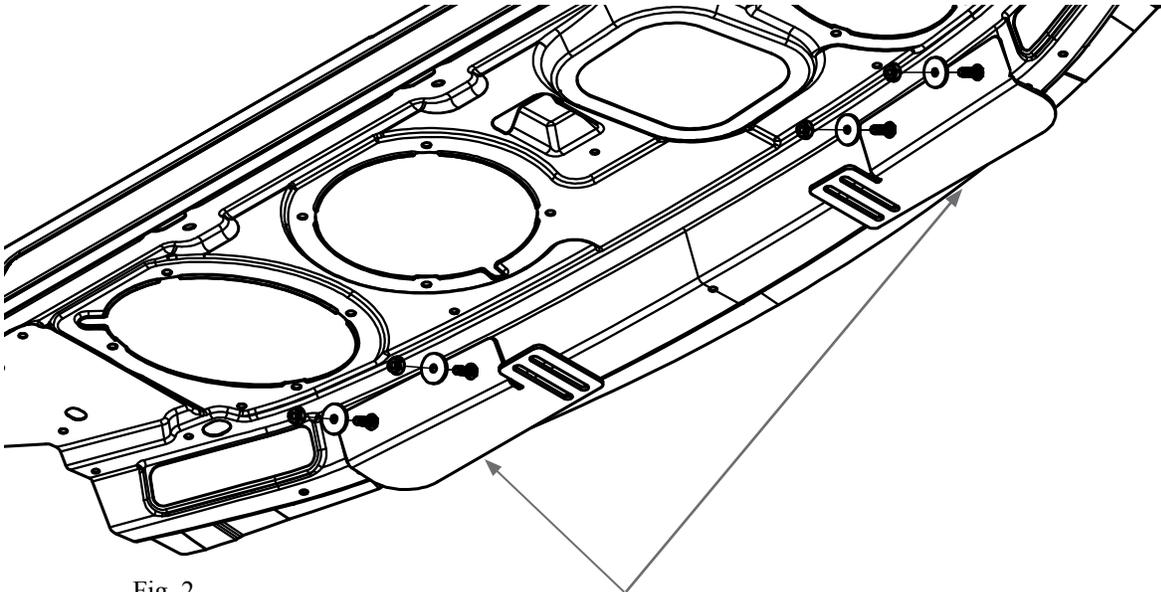

Fig. 2
- B. Slots will need to be cut into the trunk liner for the locations that brackets 3GTM5617-02D & P will need to be installed at. These slots will allow, hand and tool access to tighten and install the parts. With one hand hold onto the inner stud of the bracket from the previous step through the slots that were cut. Then, place bracket 3GTM5617-02D over the other stud. Secure it loosely in place with the 3X459 washer and 3X16 nut. Repeat this step on the other stud, then tighten the hardware down securely. Repeat on the passenger side. Refer to Fig. 2.